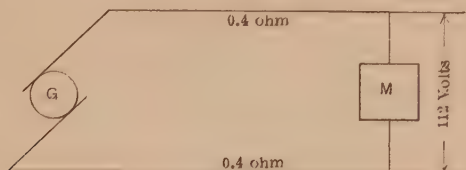

FIG. 38.
**Problem 13.** The motor in Fig. 38 requires 13.2 amp. at 112 volts. What must be the voltage across the generator?